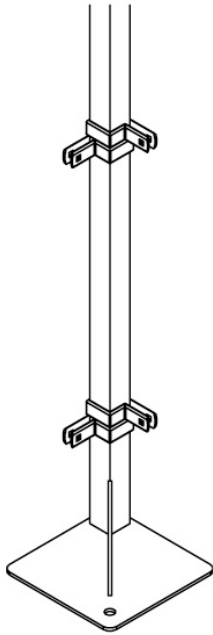

FIG. 3
- 1.5.2 Separate ends of brace bands until they go around the 1-1/2" square tube and install four bands on each leg with the part containing bolt holes at 90 degrees from each other and in line with the outer edge of the foot (FIG. 3).